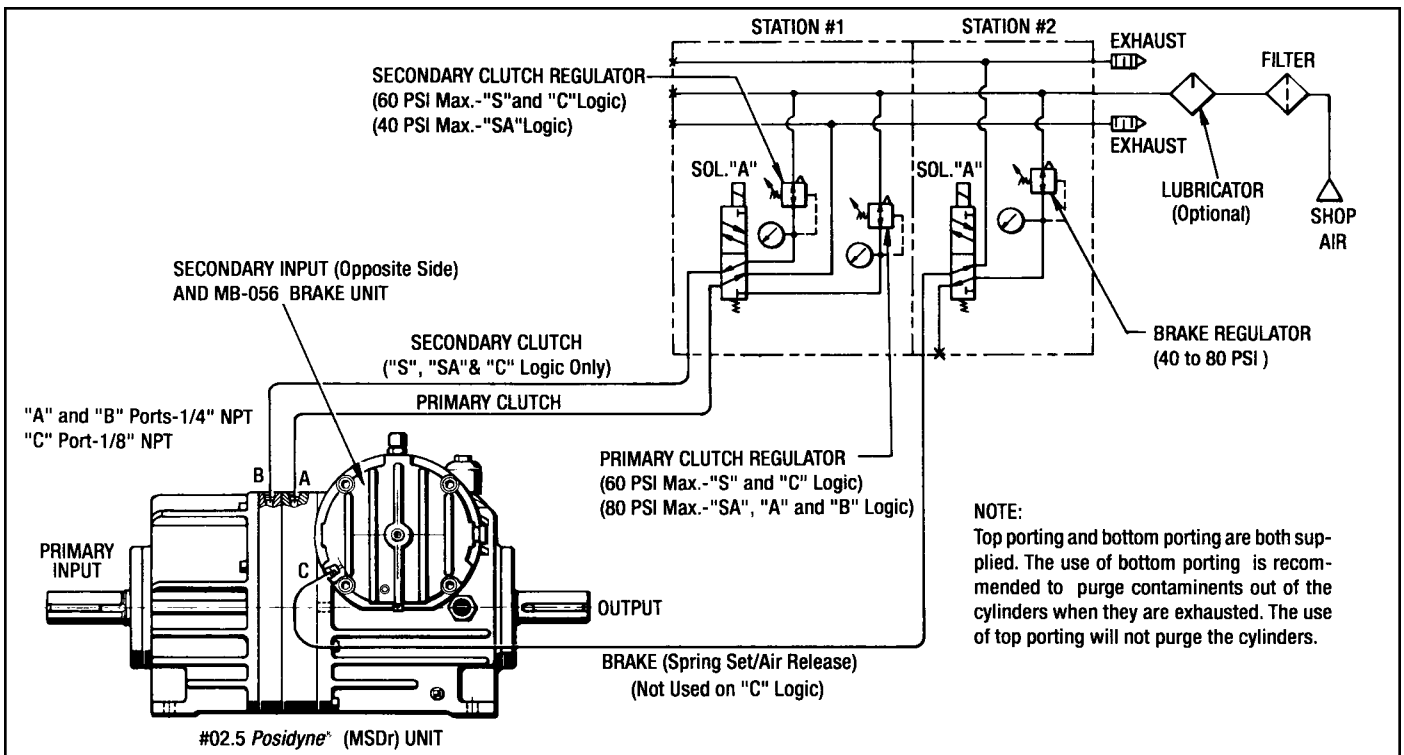

Figure 3.1 - Typical Pneumatic Schematic
Note the following when planning and installing the Pneumatic System (See Figure 3.1):
- Recheck Air Connections for tightness to see if they are correct as shown in the Pneumatic Schematic (Figure 3.1).